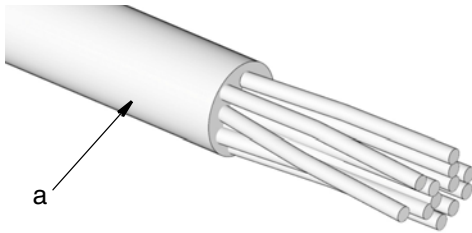

FIG. 1
1. Remove 2 to 3 inches of the outer insulation from one end of a user supplied cable (a) as shown in FIG. 1.